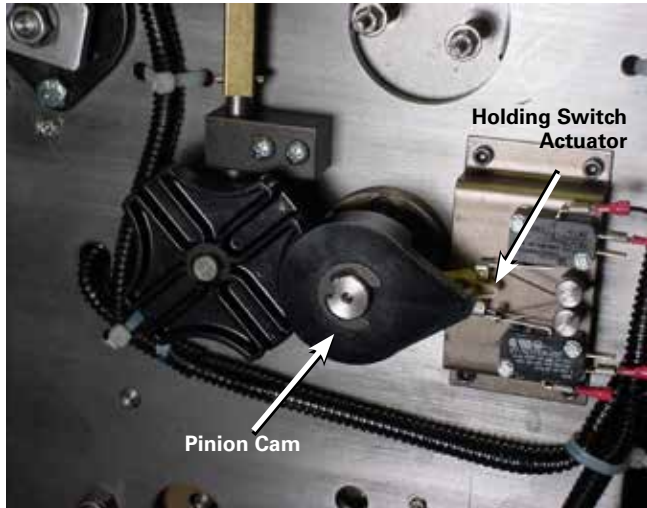

Figure 155. Neutral position for position indicator pinion cam and holding switch.
- C. The pinion cam is pointing to the right over the holding switch actuator. See Figure 155.